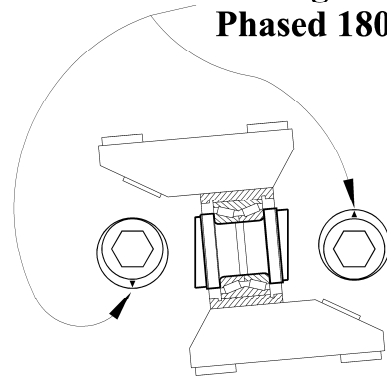
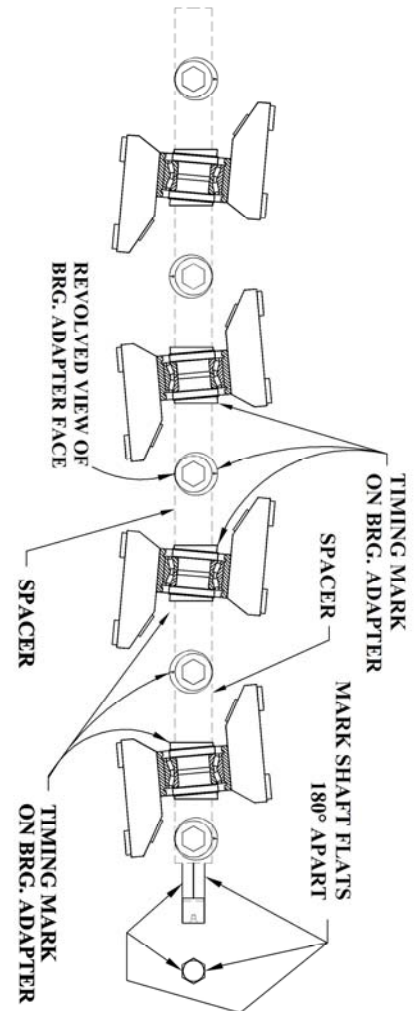

Figure 19 Rotor Timing Mark Reference
Figure 20. Timing First Four Rotors
1. Use marker pen to assist with aligning timing marks between rotors. Mark two rotor shaft flats 180 degrees apart next to the threaded end (see Figure 19 and Figure 20). The marked flats would have to align with the timing marks on any rotors not removed during servicing.